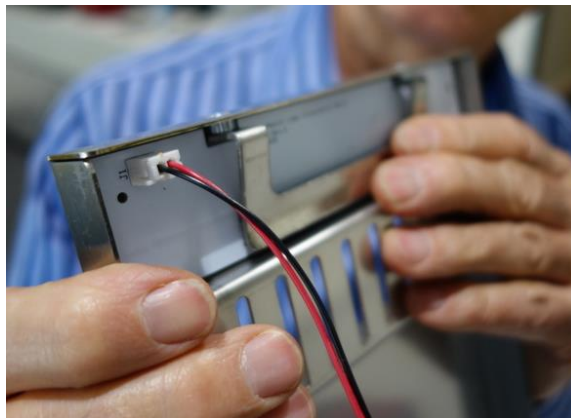

Figure 46: Logo retainer clip position
1. Position logo retainer clip as per Figure 46.